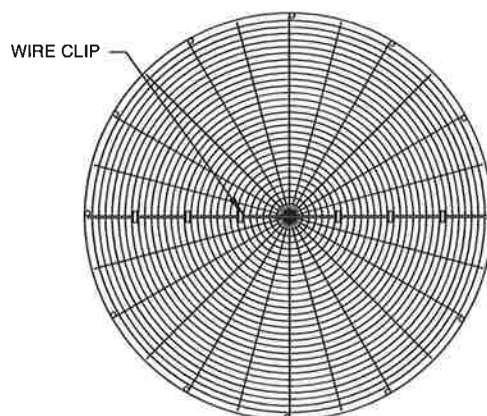
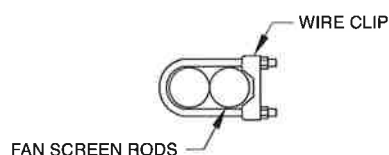

Figure 21 – Wire Clip Spacing
Figure 20 – Wire Clip Arrangement
3. Join the two screen halves with wire clips (see Figure 20). Space them evenly as shown in Figure 21.